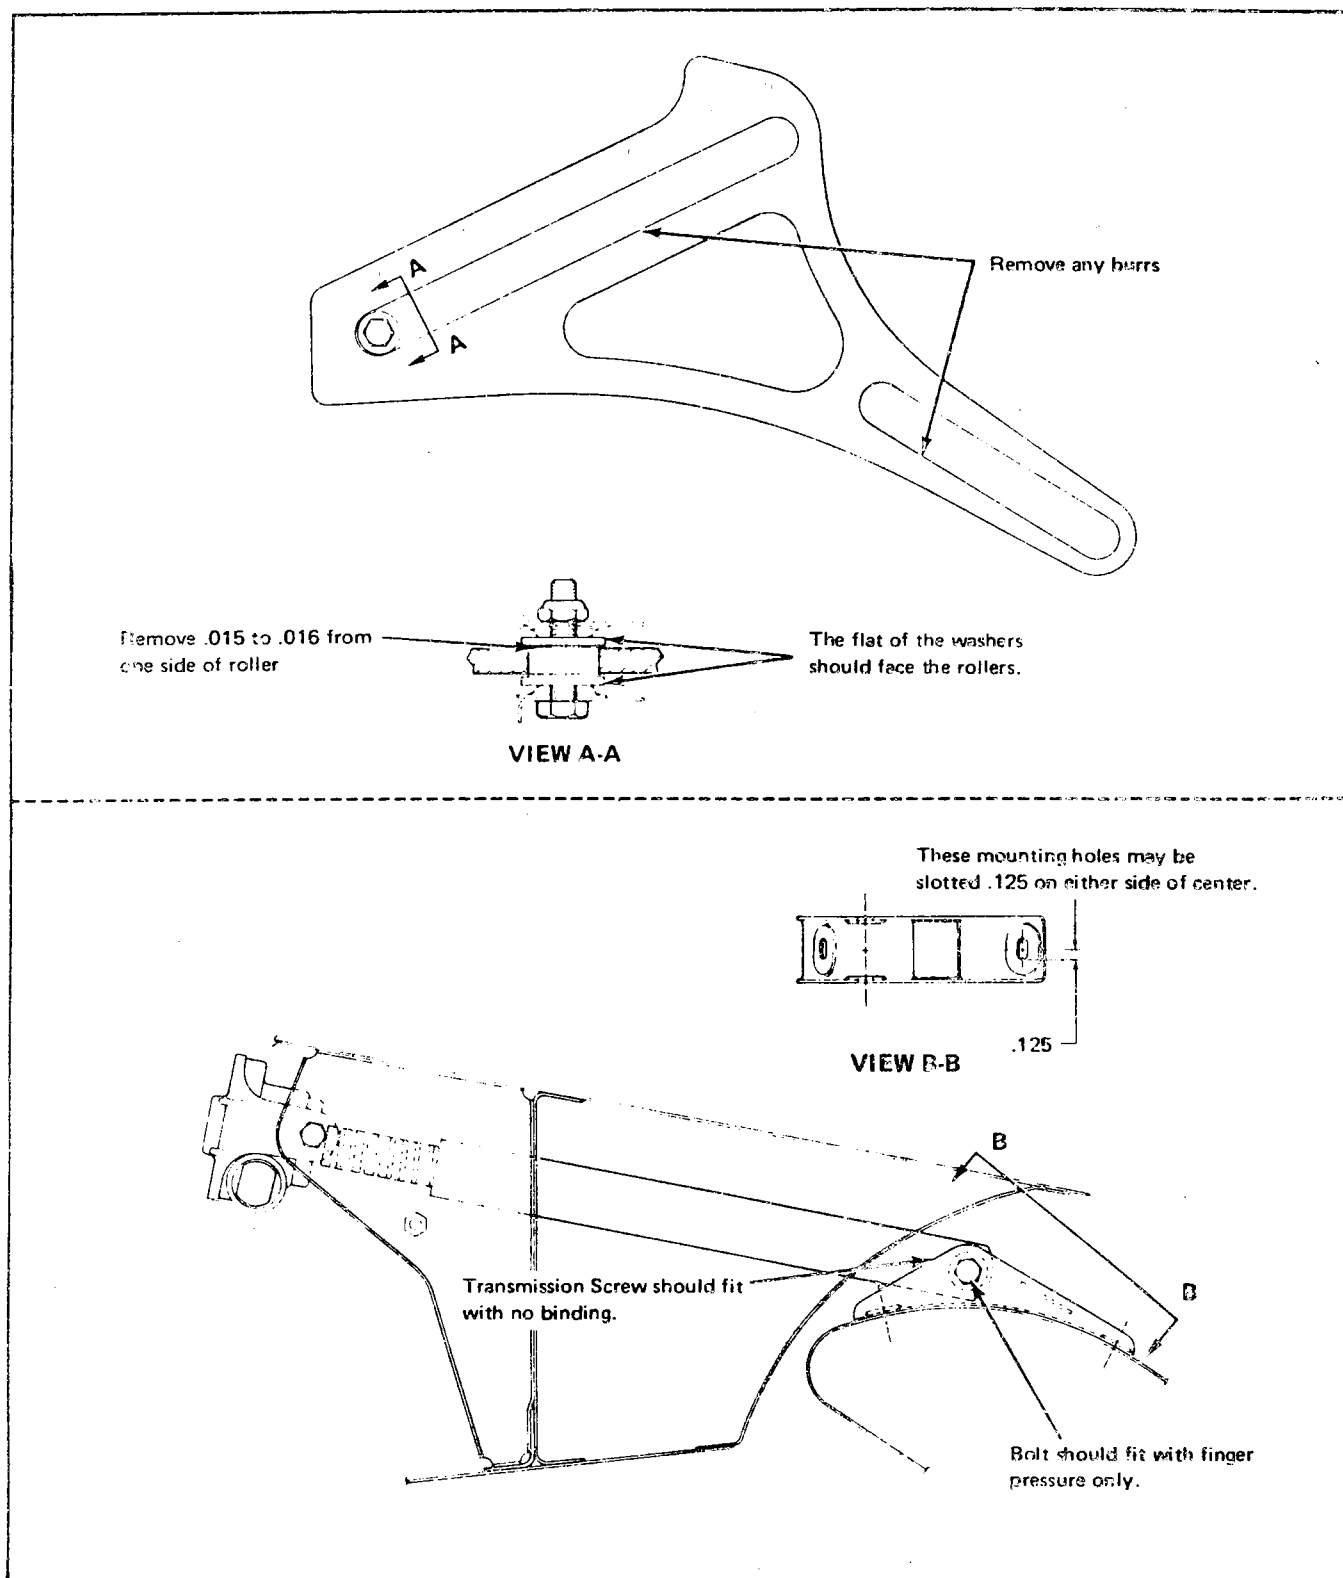

Figure 3. Friction Reduction in Wing Flap System
3. REDUCTION OF FRICTION IN WING FLAP SYSTEM. (Refer to Figure 3.) To insure proper flap system operation and reduce friction on the flap motor, the following inspection and repairs are only required should operational problems exist in the flap system.
- f. On each flap roller remove 1/64 or .016 of an inch from one side of each roller. (Refer to Figure 3, View A-A.)
- h. Insure that the washers used on both sides of the rollers are flat. (Refer to Figure 3, View A-A.)
It may be necessary to move the horn assembly to obtain this no binding fit. The mounting holes on the horn assembly may be slotted to gain some adjustment if needed. (Refer to Figure 3, View B-B for dimensions of slots.)
- l. Ascertain that the transmission bolt at the flap end fits into the screw end horn assembly with finger pressure only. (Refer to Figure 3).